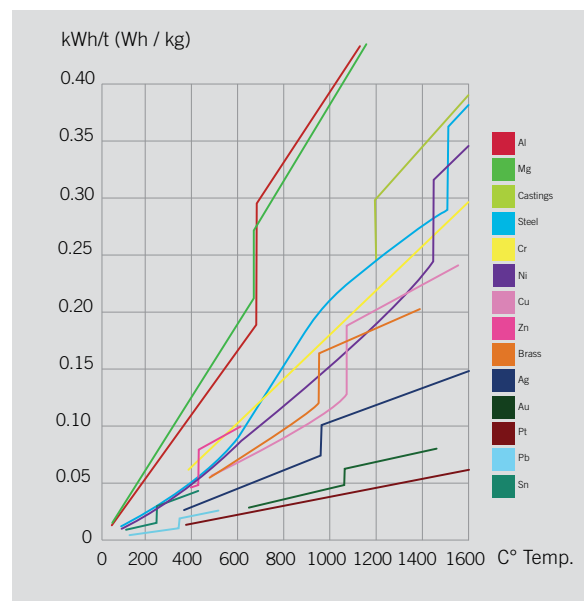

Fig. 4. Energy absorption rates for different materials
Step 1 First determine the material's energy absorption rate. Fig. 4 shows rates for some common materials.